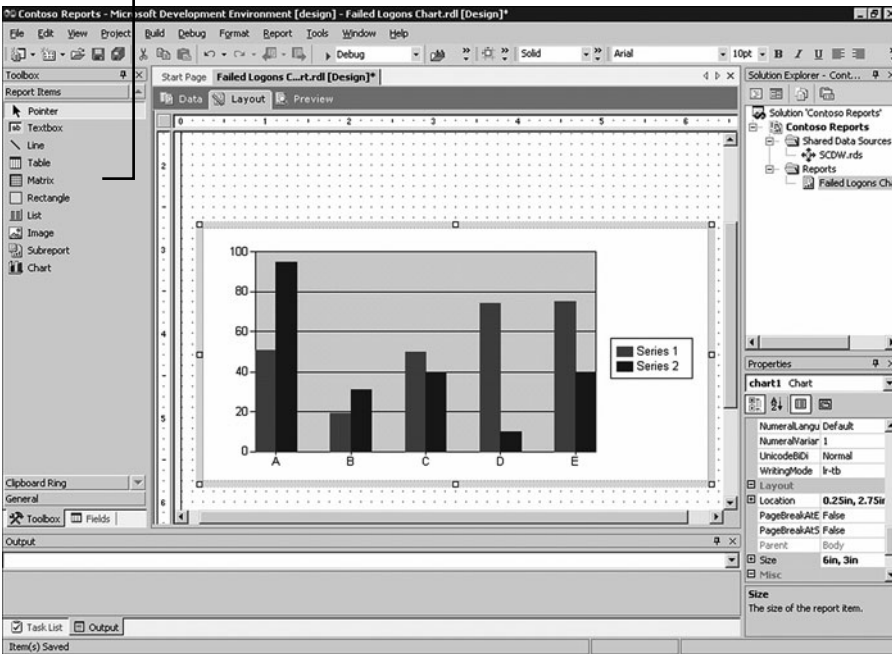

FIGURE 21.18 The Toolbox menu.
3. Select View, Toolbox from the menu to display the tools quick menu, as shown in Figure 21.18. Drag the Chart icon to the body of the report. Resize the chart to fit within the body of the report. Remember to leave enough room for additional report elements such as the title, description, and any graphics you may want to add to the report.